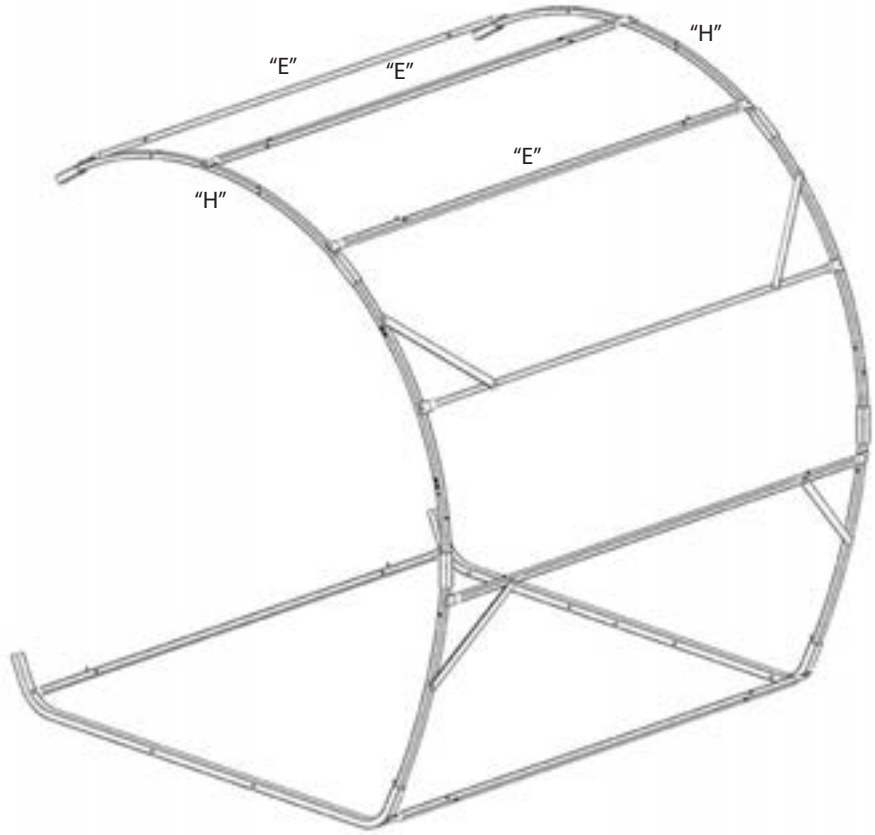

Figure 16.1
STEP 8: Install Section 3 that was created in Step 7, into Section 2 that was created in Step 5, resulting in the frame illustrated in Figure 16.1.